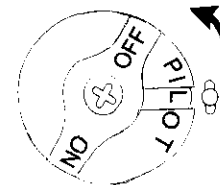

Figure 2
2. Open fryer door and rotate gas valve knob to PILOT position. See Figure 2 on next page.